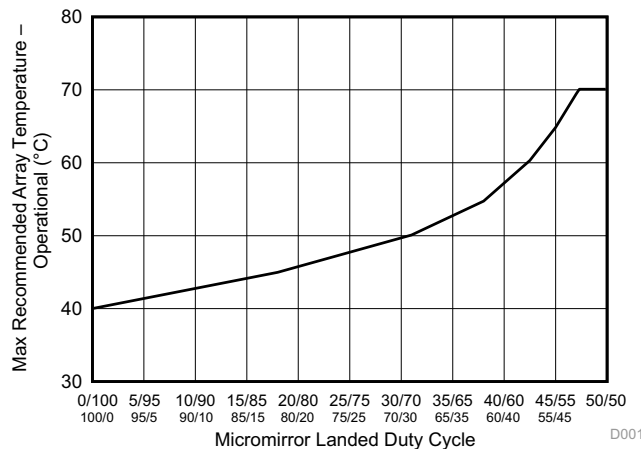

Figure 1. Max Recommended DMD Temperature – Derating Curve
(12) Per Figure 1, the maximum operational case temperature should be derated based on the micromirror landed duty cycle that the DMD experiences in the end application. Refer to Micromirror Landed-on/Landed-Off Duty Cycle for a definition of micromirror landed duty cycle.
(13) Long-term is defined as the average over the usable life of the device.
(14) Short-term is defined as less than 60 cumulative days over the over the usable life of the device.